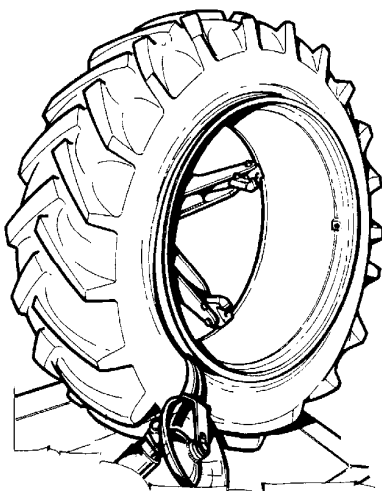

Fig.45
5. Place the hook tool between bead and rim (Fig.45).